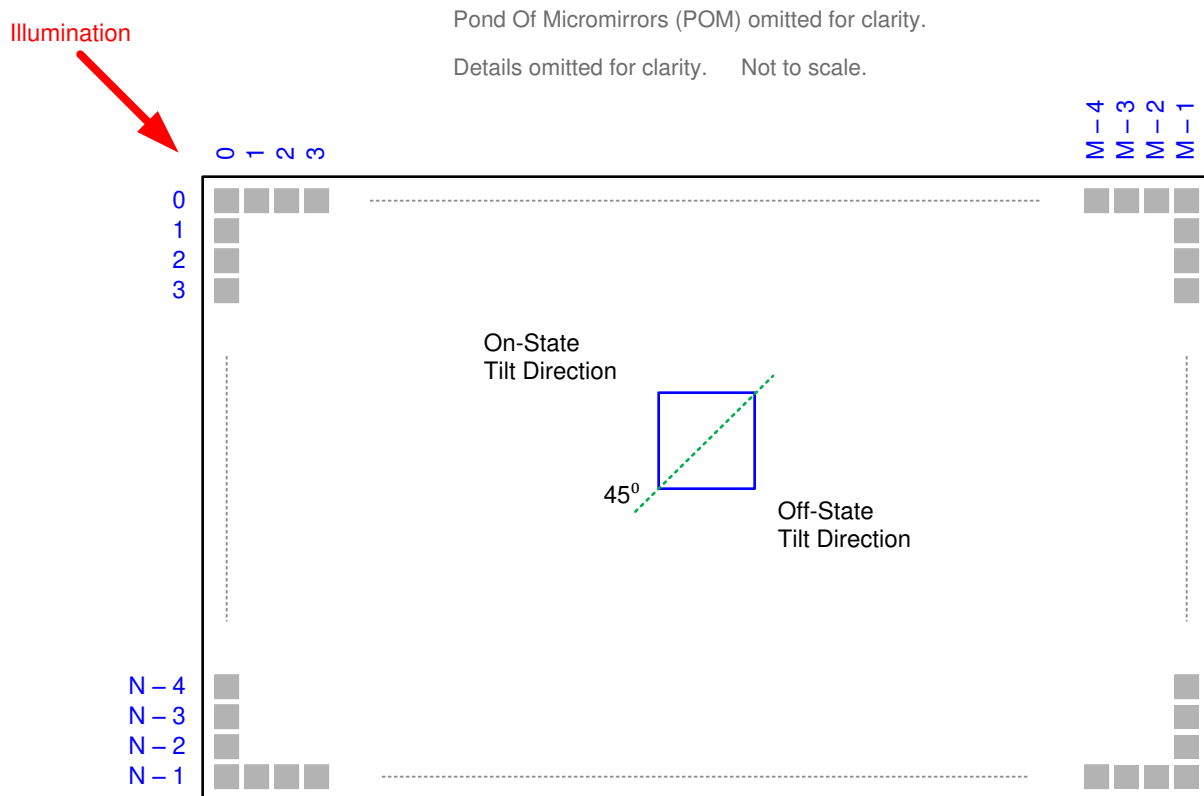

图 6-9. Micromirror Landed Orientation and Tilt
- (1) Measured relative to the plane formed by the overall micromirror array
- (2) Variation can occur between any two individual micromirrors located on the same device or located on different devices.
- (3) Additional variation exists between the micromirror array and the package datums. See the package drawing.
- (4) See 图 6-9.
- (5) An out-of-specification micromirror is defined as a micromirror that is unable to transition between the two landed states.